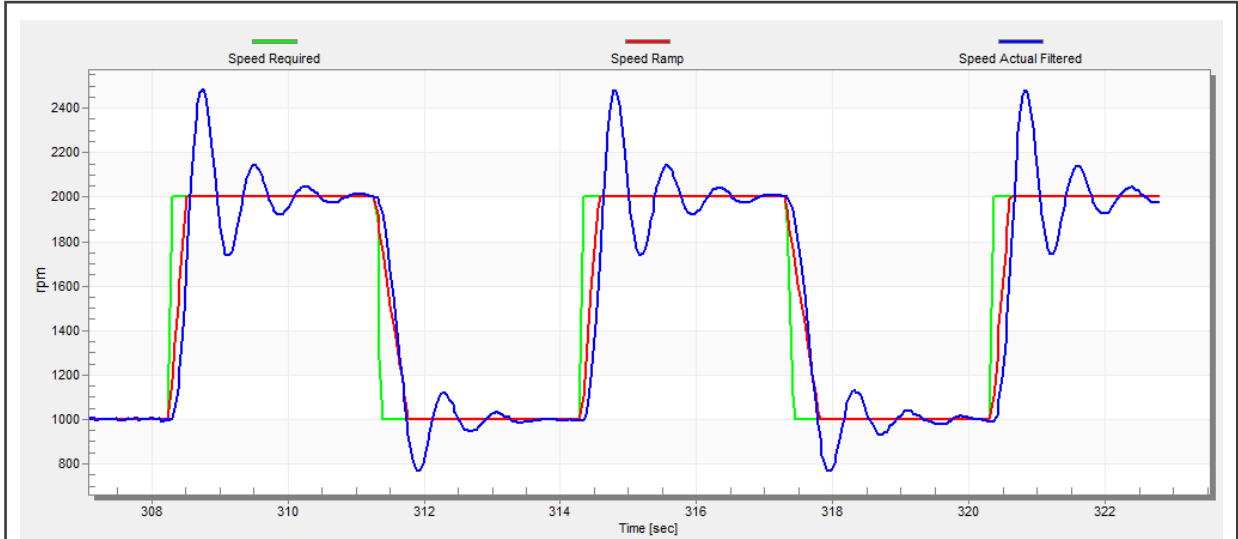

Figure 32. Speed controller response—SL\_Kp value is low, Speed Actual Filtered greatly overshoots
- The “SL\_Kp” value is low, the “Speed Actual Filtered” greatly overshoots, and the long settling time is unwanted (see Figure 32).